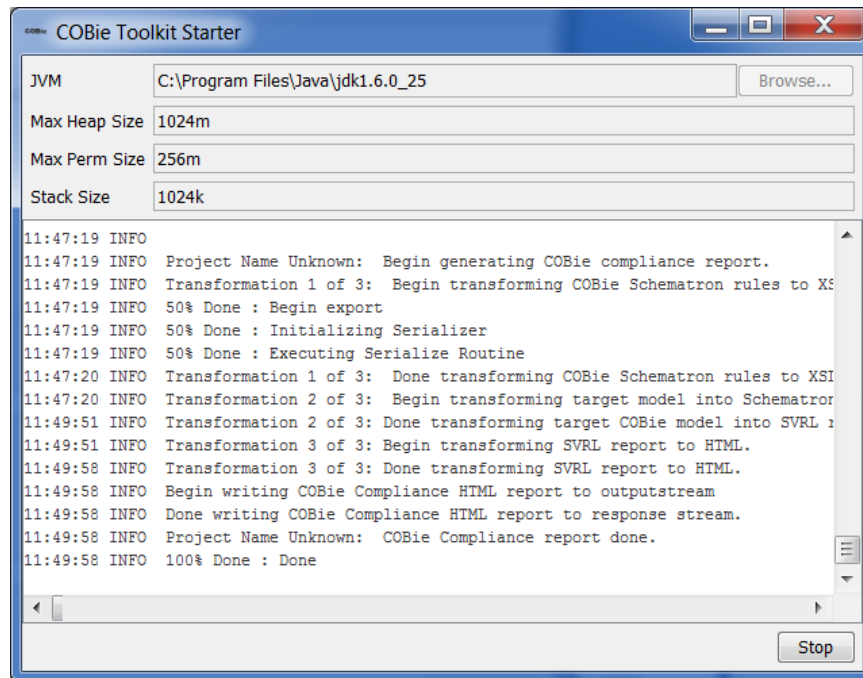

Figure 11: COBie Toolkit Starter Log of Design QC Report (Timing Reference)
- This step will take 2-3 minutes to execute – QC exports are the slowest –Figure 11 provides a reference on execution time